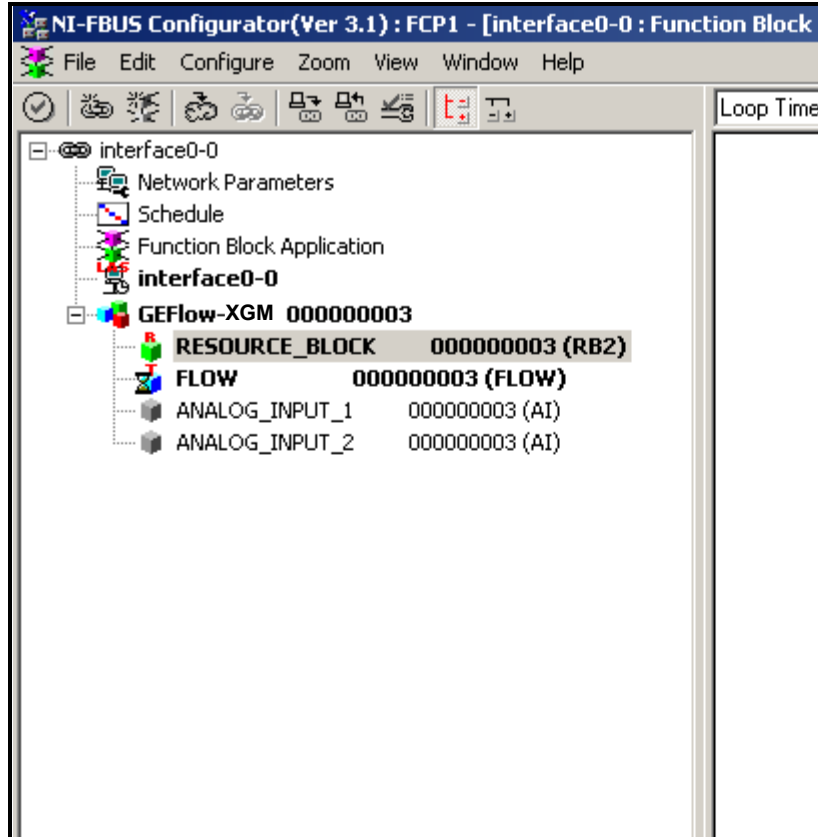

Figure 59: Configuration Utility Setup Example
Figure 59 shows the Configuration Utility with a flowmeter on the network (Panametrics Flow-XGM).
1. Double click on the AI block for which you wish to set the units (ANALOG_INPUT_1 or ANALOG_INPUT_2 in the tree under GEFLOW-XGM; see Figure 59 on page 134).
1. Double click on the FLOW transducer block (in the tree under GEFLOW-XGM; see Figure 59 on page 134).